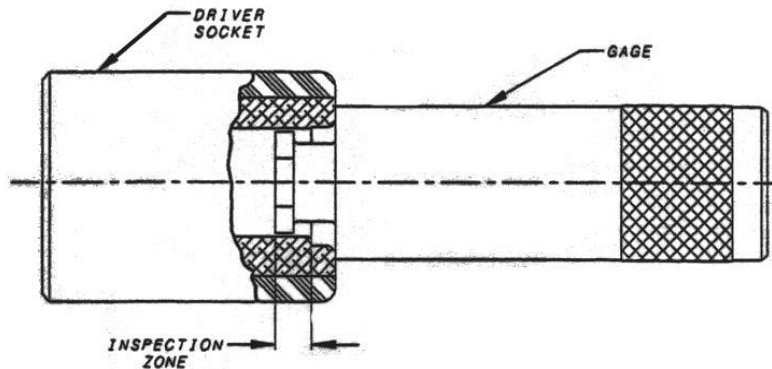

FIGURE 1
1. INSERT GAUGE FULLY INTO DRIVER BETWEEN THE DRIVING RADII PER FIGURE 1, THEN ROTATE THE GAUGE.
TO MEASURE THE WORK THICKNESS, HOOK THE GAGE ON TO THE BACKSIDE AS SHOWN IN FIGURE 1 AND 2 BELOW. READ THE SCALE NUMBER EVEN WITH THE WORK SURFACE.